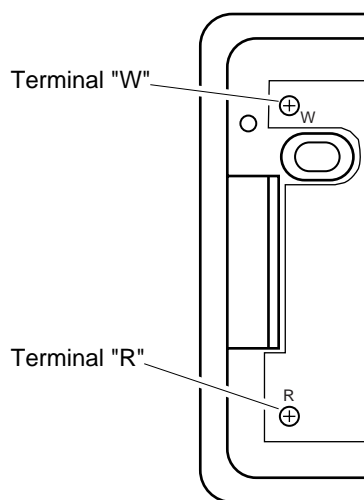

Figure 34 - Thermostat Base Terminals "W" and "R"
6. Connect one bare wire end to each terminal ("W" and "R") of the thermostat base (see Figure 34).